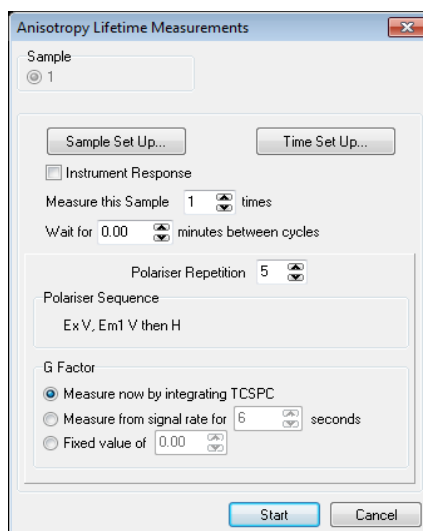

Figure 5-9: Setup for automated time resolved fluorescence anisotropy measurements
3. Open the dialogue box for time resolved anisotropy measurements (  >> **Anisotropy** - Figure 5-9) From within this dialogue box you can set up and start single and multiple time resolved anisotropy measurements. For a single anisotropy measurement, set the **Measure this Sample** value to 1. For multiple measurements set this value to the total number of anisotropy measurements you intend to make. If you do multiple scans, you can define a waiting time between the individual measurements.
4. The value **Polariser Repetition** applies to both single and multiple anisotropy measurements. A value of 5 (as shown in Figure 5-9) means the set of polarised time resolved measurements will be repeated 5 times, with each repeat the acquisition will continue to add the counts to the previous data.